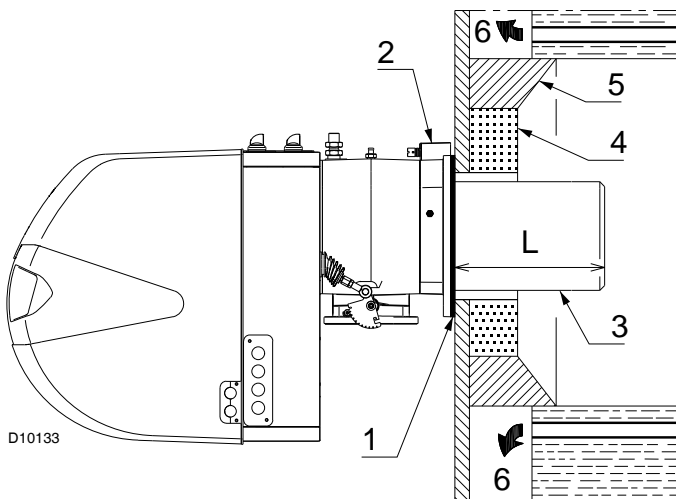

Fig. 11
- For boilers with front flue passes (6) or flame inversion chambers, protective insulation (4) must be inserted between the boiler refractory (5) and the blast tube (3).
- For boilers having a water-cooled front the insulation (4)-5) (Fig. 11) is not required unless it is required by the boiler manufacturer.
- Secure the flange (2)(Fig. 11) to the boiler plate, inserting the gasket (1)(Fig. 11).